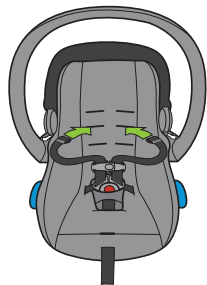

Figure 7
- From front of Carrier, insert the Shoulder Harness Straps through the chosen Shoulder Harness Slots in the Carrier Seat Back as shown in **Figure 7**, ensuring that the Straps are not twisted.